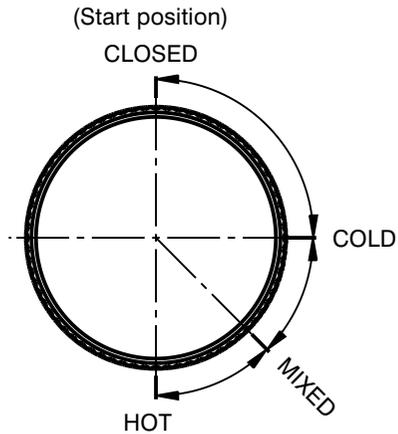

Fig. 3
- * This mixer is fitted with a 'Progressive' cartridge. To operate the cartridge, the handle is rotated clockwise (Fig.3). The first 90° of handle rotation will only select cold water, avoiding unnecessary use of hot water. Further rotation of the handle will deliver a mixture of hot and cold. When the handle is rotated fully clockwise, only hot water will flow.